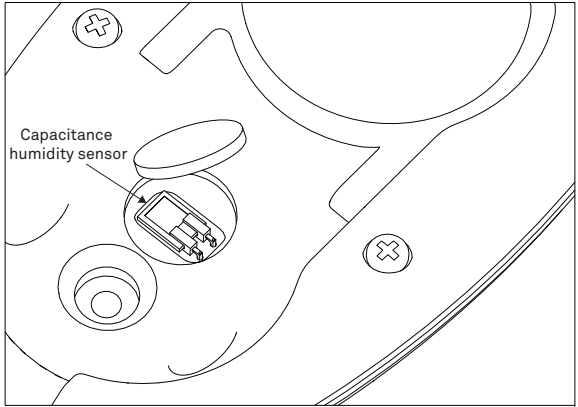

Figure 17 Capacitance humidity sensor
3. Be careful of the capacitance humidity sensor (Figure 17) when placing the new filter. Use gloves to handle the filters as finger oils can be transferred to the filter and contaminate the filter.